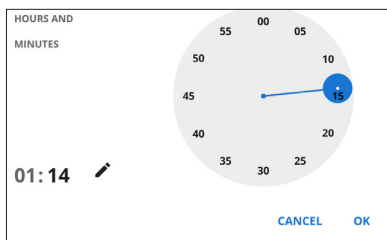

Fig. 63—(Right) If you used the spinner to set the hours of the period, then the display changes to allow you to set the minutes of the period.
- If you use the spinner, you may select from 1 to 23 hours. The first 12 hours are on the outside of the spinner, and the inner spinner is used to set 13 – 23 hours. After you make that selection, the spinner displays minutes and you may use the dial to set the number of minutes in the period (Fig. 63).